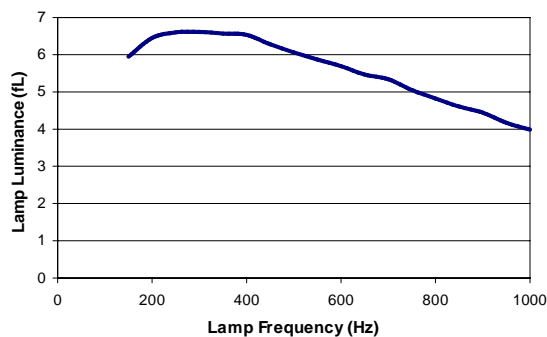

Figure 6— Luminance vs. lamp frequency
The selection of the CLF value can also affect the brightness of the EL lamp because of its control of the lamp frequency (LF). Although input voltage and lamp size can have a small impact on the EL lamp frequency, LF mainly depends on the CLF value selected or the frequency of the input clock signal to CLF. Figure 6 shows typical brightness of a D504B IC circuit with respect to lamp frequency. In this example, the inductor and CHF values were kept constant while varying LF.